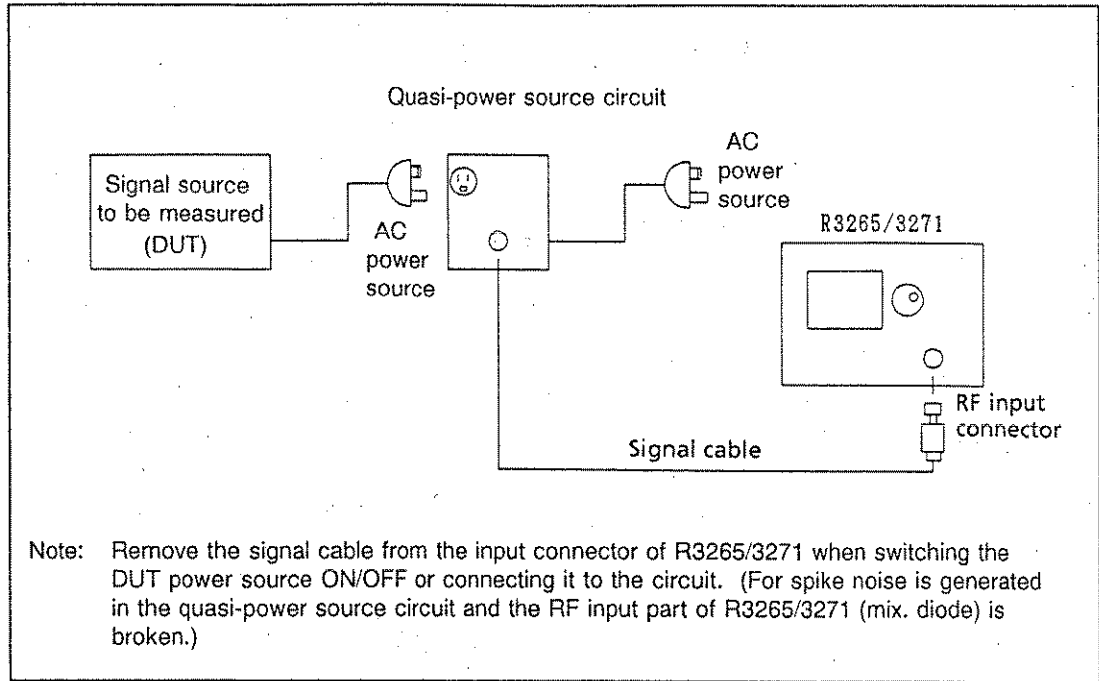

Fig. 5.11-3 Measuring the Power Source Terminal Voltage
- ① Appears when input of time domain data is attempted with frequency domain data already input. Press to continue the input operation, and the preset frequency domain data is cancelled.
- ② Appears when input of frequency domain data is attempted with time domain data already input. Press to continue the input operation, and the preset time domain data is cancelled.
(4) Measuring the power source terminal voltage (using a quasi-power source circuit)
- ① Connect the signal line to be measured (DUT) as illustrated in Fig. 5.11-3 :